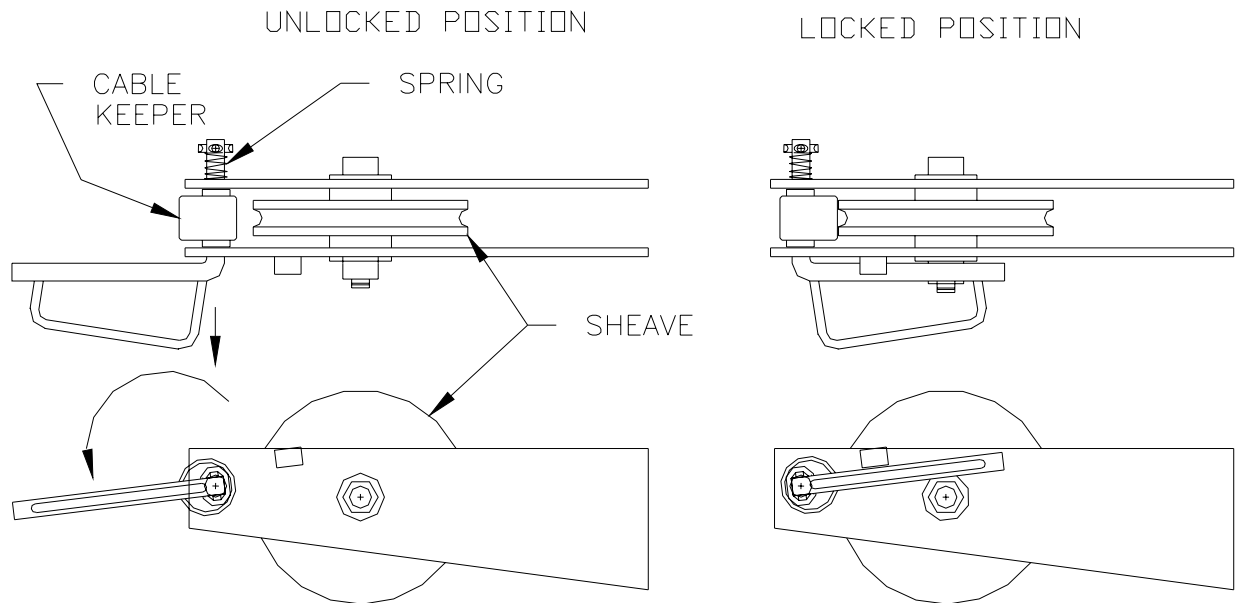

Figure 3-2.
7. Using OSHA compliant fall protection, use a step ladder (not an extension ladder) to reeve wire rope through guide on winch and then through pivot block or sheave. At top of boom, unlock cable keeper by pulling out handle and rotating it counterclockwise as shown in Figure 3-2. Insert wire rope between cable keeper and sheave. Lock cable keeper in position by pulling out handle and rotating it clockwise as shown in Figure 3-2. This handle is spring loaded and has to be pulled out to rotate in either direction.